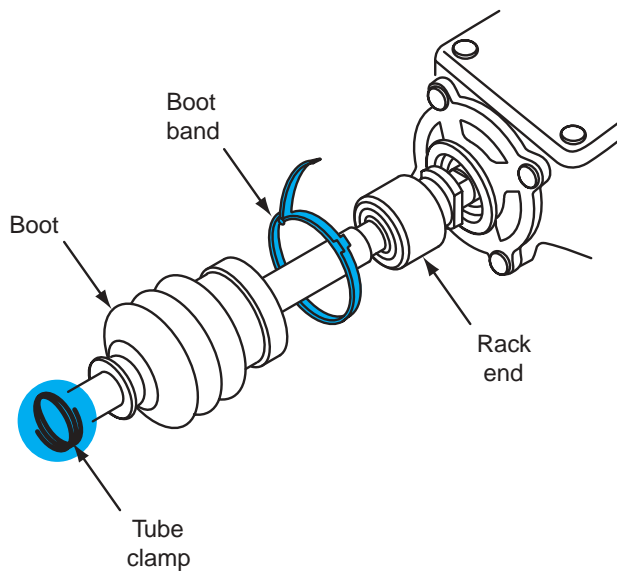

Figure 13-10 Removing boot bands and clamps from the inner tie-rod end.
4. Remove the boot bands and clamps from the inner tie-rod ends (Figure 13-10).